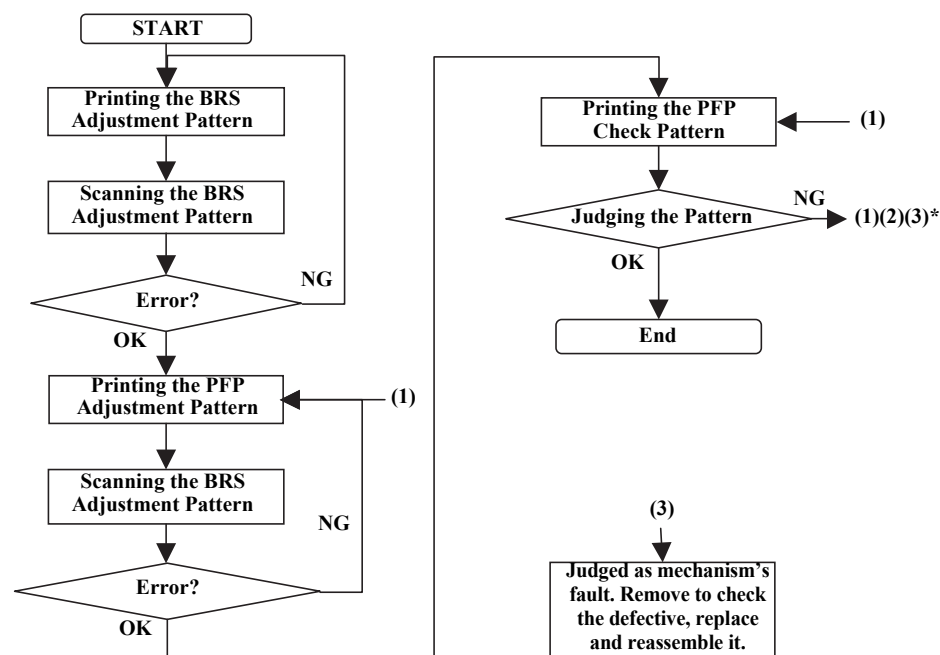

Figure 5-24. BRS/PFP Adjustment Flow
When performing PFP adjustment only without BRS adjustment, start adjustment from step (2) in Figure 5-24.